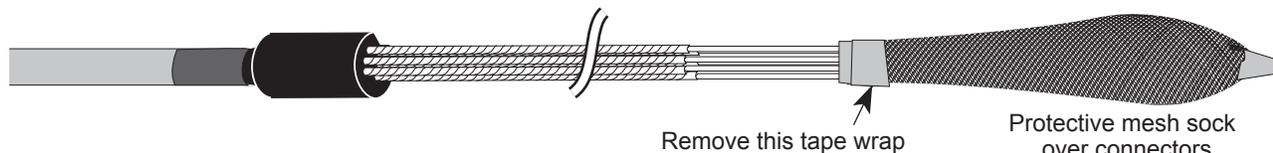

Figure 5
Step 4: Remove the wrap of tape around the mesh (sock) protecting the connectors (Figure 5). Pull the sock off the connectors. The trunk cable can now be strain-relieved and its connectors plugged according to the appropriate hardware instructions.